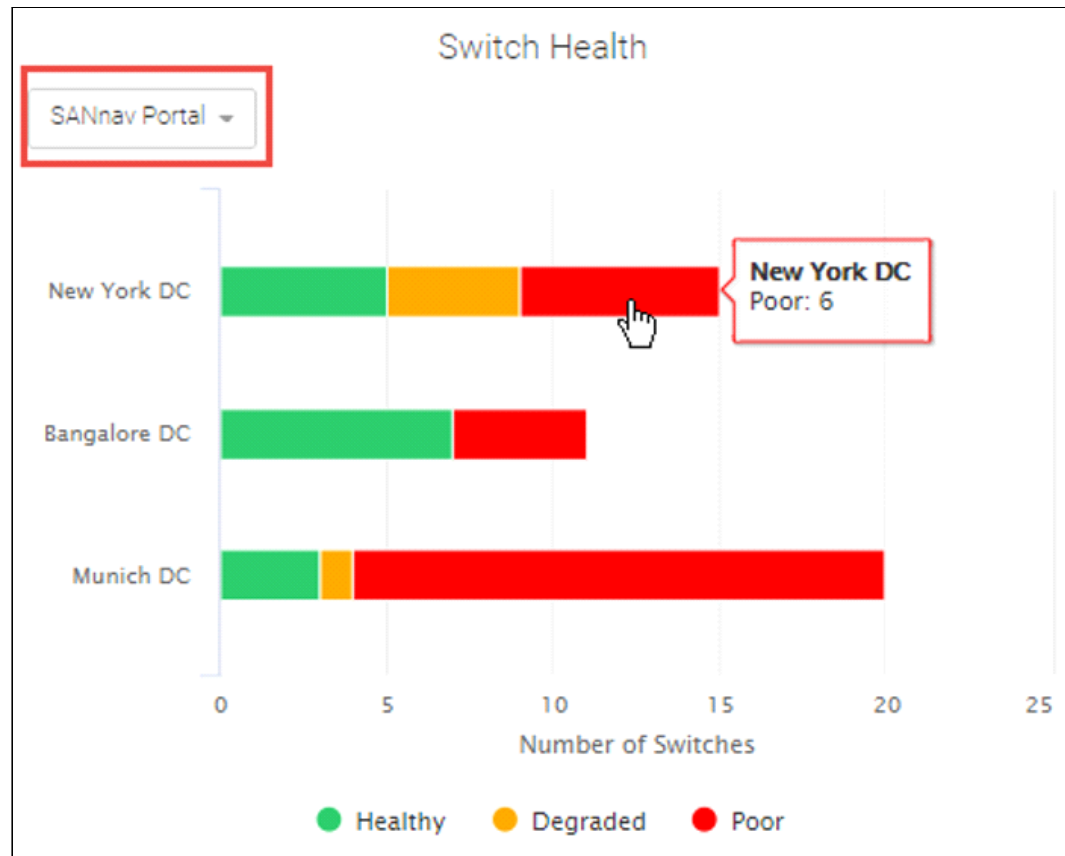

Figure 11-50 Switch Health: SANnav Portal
1. Click **Dashboard & Reports** in the navigation bar. In the bottom row of the dashboard, the Switch Health widget displays (see Figure 11-50). In this window, you see switches that are grouped by SANnav Portal instances. You can select a different grouping from the drop-down list.